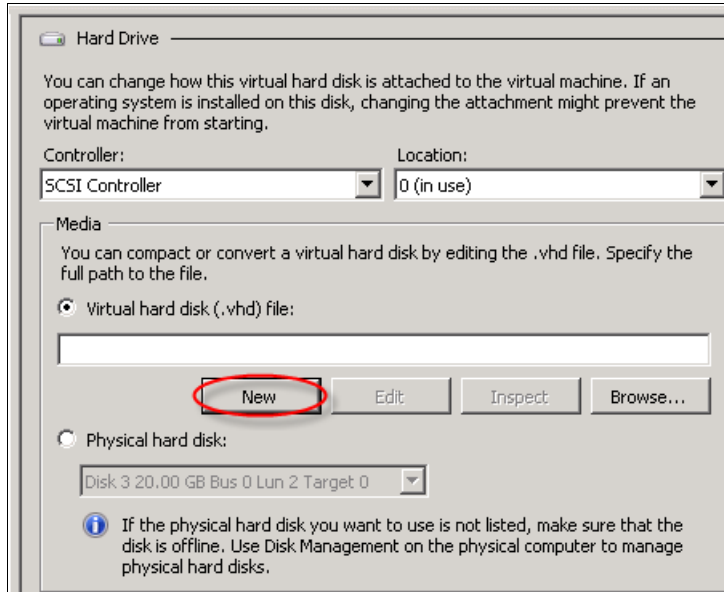

Figure 3-17 New hard drive properties
3. To add a new hard drive, click **New**, as shown in Figure 3-17.